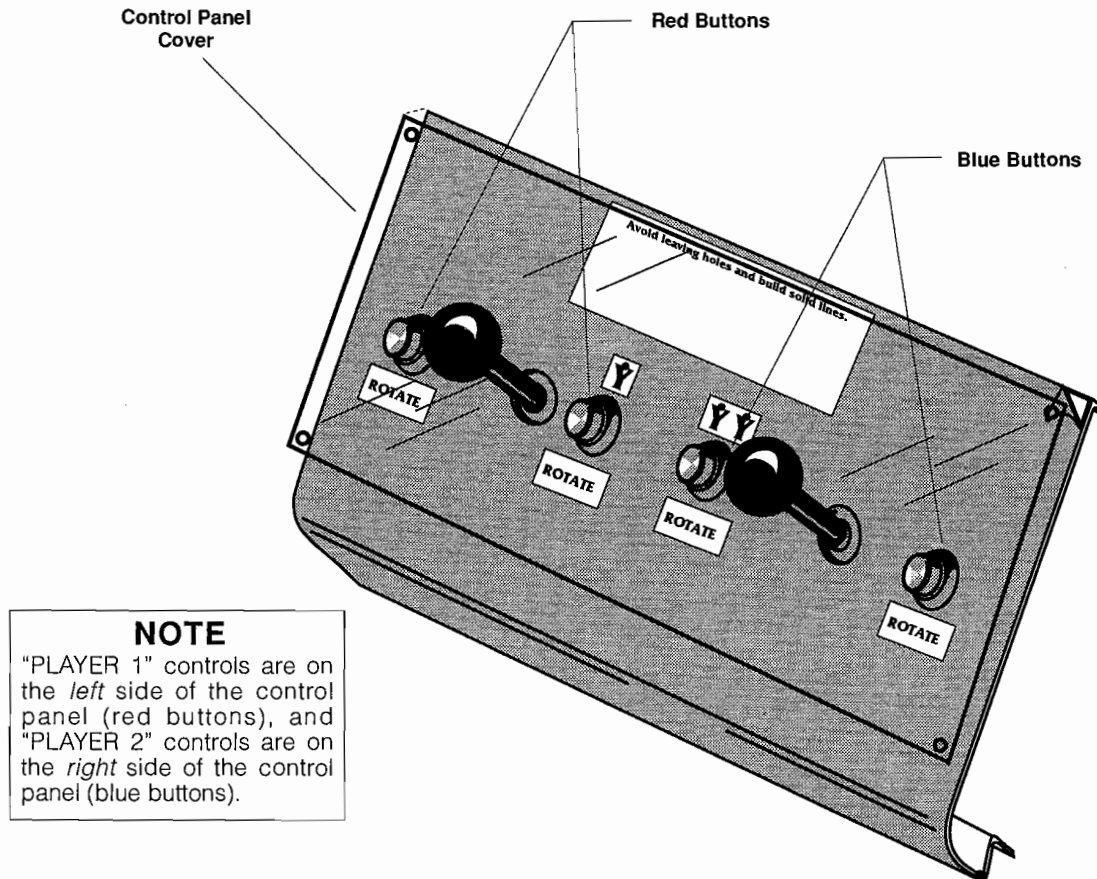

Figure 1-2 Converting the Control Panel
2. Determine the location of the player pushbuttons and joysticks on the control panel. (See Figure 1-2.)
5. Install the button labels on the control panel decal. (See Figure 1-2.)
6. Install the instruction label (part no. 046506-01) on the control panel decal. (See Figure 1-2.)
8. Install the red player control buttons (part no. 178237-001) for the left player. (See Figure 1-2.)
9. Install the blue player control buttons (part no. 178237-005) for the right player. (See Figure 1-2.)